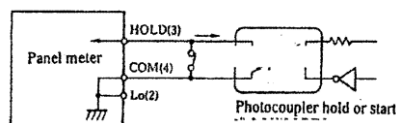

Figure 3
Since the input terminal (LO) and COM terminal of this meter are connected but not separated and insulated against DC current/voltage, control these terminals with a mechanical relay switch such as a relay switch as far as possible. When controlling them with TTL or transistor, mount the circuit shown in Figure 3 externally. (Insulate the circuit when input signals float.)